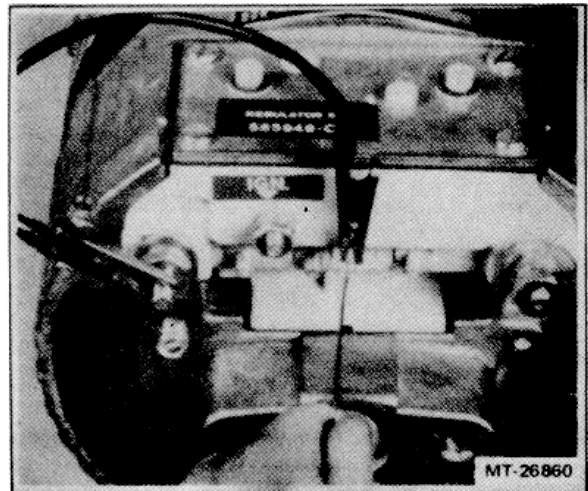

Figure 3 - Jumper Connections for Full Field Test.
6. Shut off the engine and all electrical accessories. Measure the voltage at the alternator output terminals and make a note of the reading. Connect a short jumper to the alternator NEGATIVE output terminal and to a 1.5-2" piece of stiff wire (a piece of paper clip wire is suitable). Insert the wire in the full field access hole as far as it will go. See Figure 3.